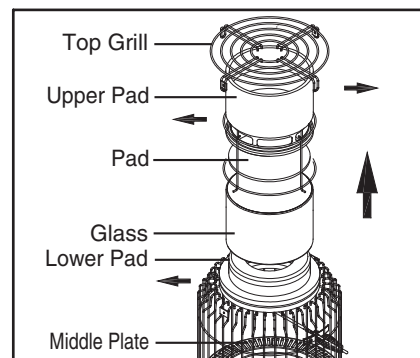

Fig. 3
- Remove the PAD from the heater as described in Fig 3.
- Lift up Glass from Middle plate and remove Lower pad on Middle plate. (Fig 3)